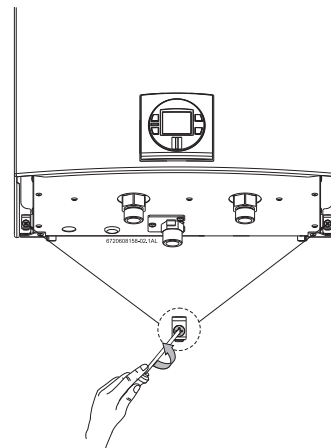

Fig. 3 Loosen the two screws
- ▶ Loosen the two Philips head screws located on bottom rear of cover (see Fig. 3).